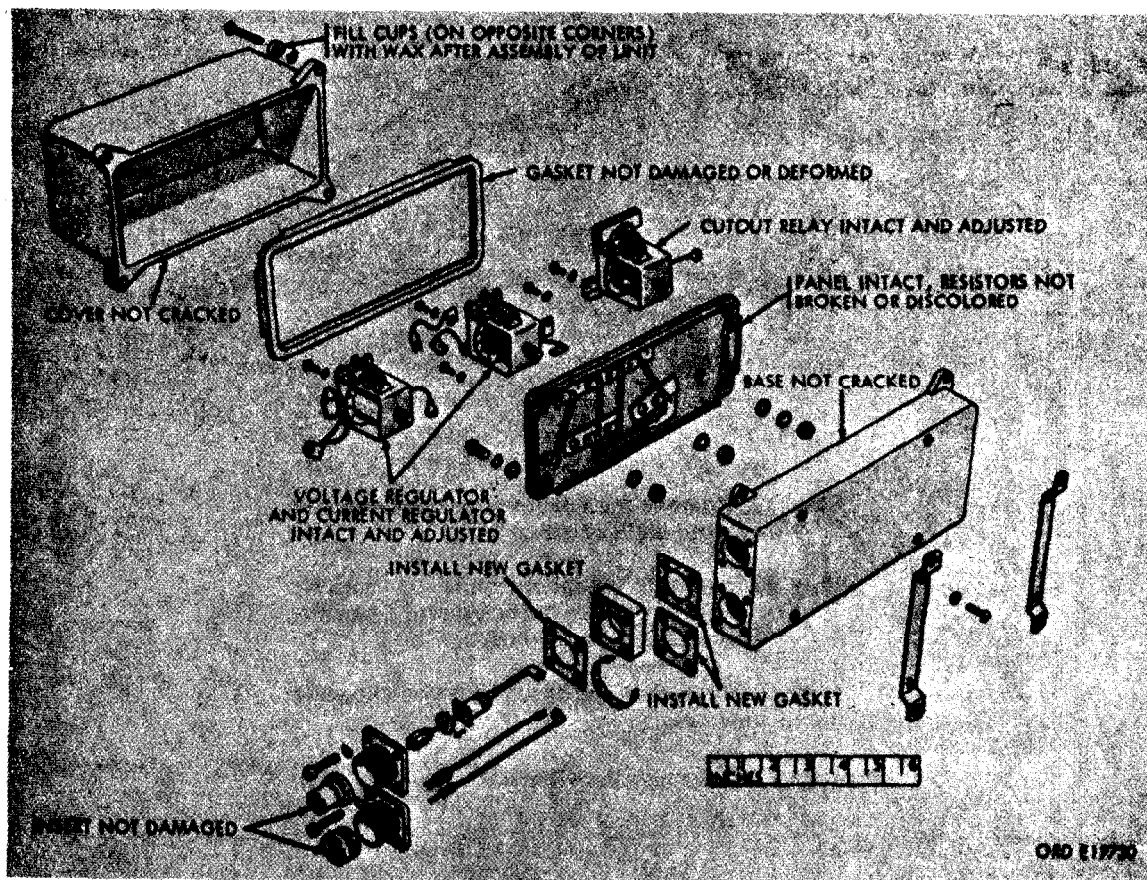

Figure 30. Generator regulator inspection points
(2) **Cleaning, inspection and repair.** Use procedures shown in TM 9-8627 and inspect components of the voltage regulator shown in figure 30.